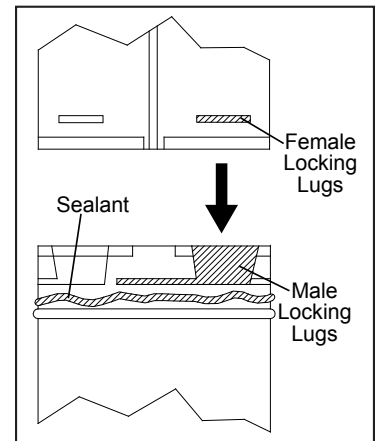

Figure 26: Twist-Lock Connection.
Place a bead of Mil-Pac on the outer edge of the inner exhaust pipe (non-flared end). Place a bead of high temperature silicone on the male edge of the outer pipe. Push the pipe sections completely together, then twist-lock one section clockwise approximately ¼ turn, until the two (2) sections are fully locked. The female locking lugs will not be visible from the outside, on black pipe. They may be located by examining the inside of the female ends as shown in Figure 26.